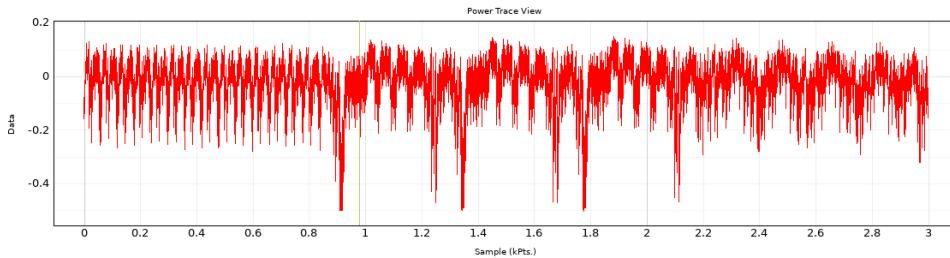

Figure 14.1: Example Power Trace of an AES128 encryption - can you tell why it is AES128?
- If we don't know it already, use Simple Power Analysis to identify key lengths - see fig 14.1